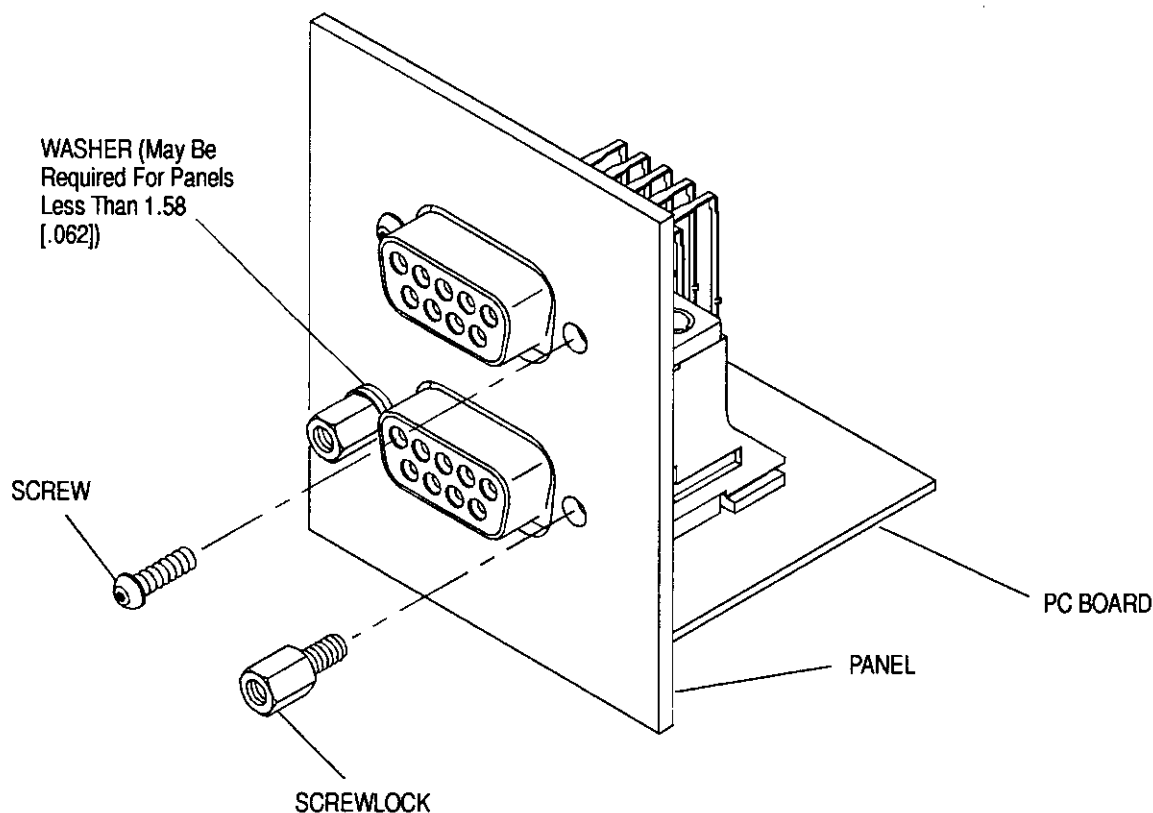

Figure 8
3.11. Mating Connector Hardware (Figure 8)